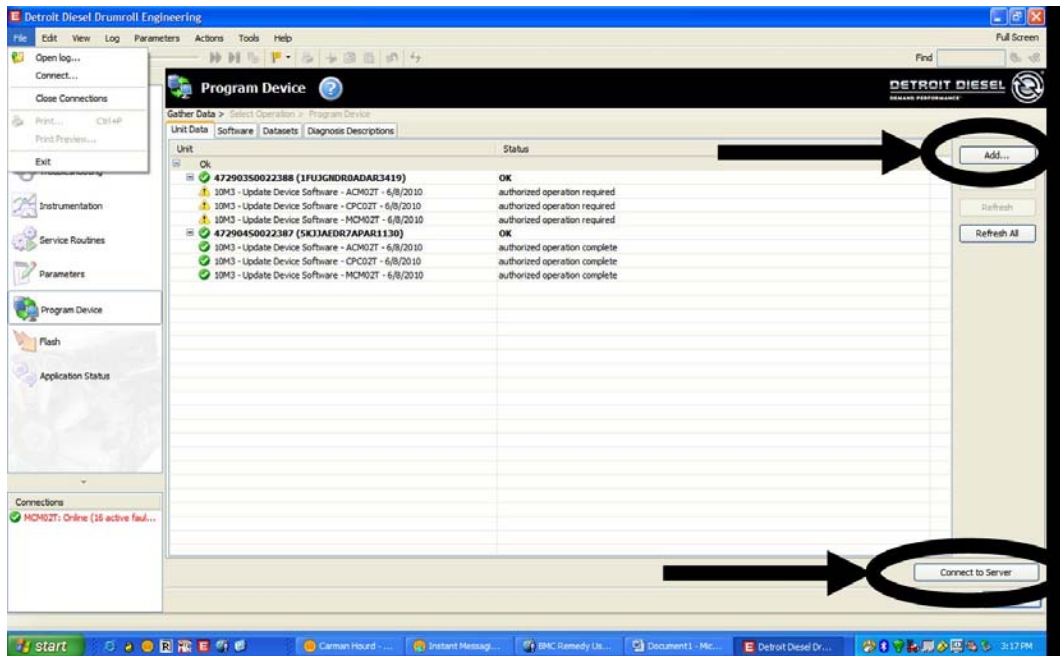

Figure 6 – Adding Engine Serial Number And Connecting To Server
9. Select the “Add” button in the upper right corner of the DiagnosticLink[®] screen and enter the engine serial number. Then click the “Connect to Server” button in the bottom right corner of the DiagnosticLink[®] screen. See Figure 6.